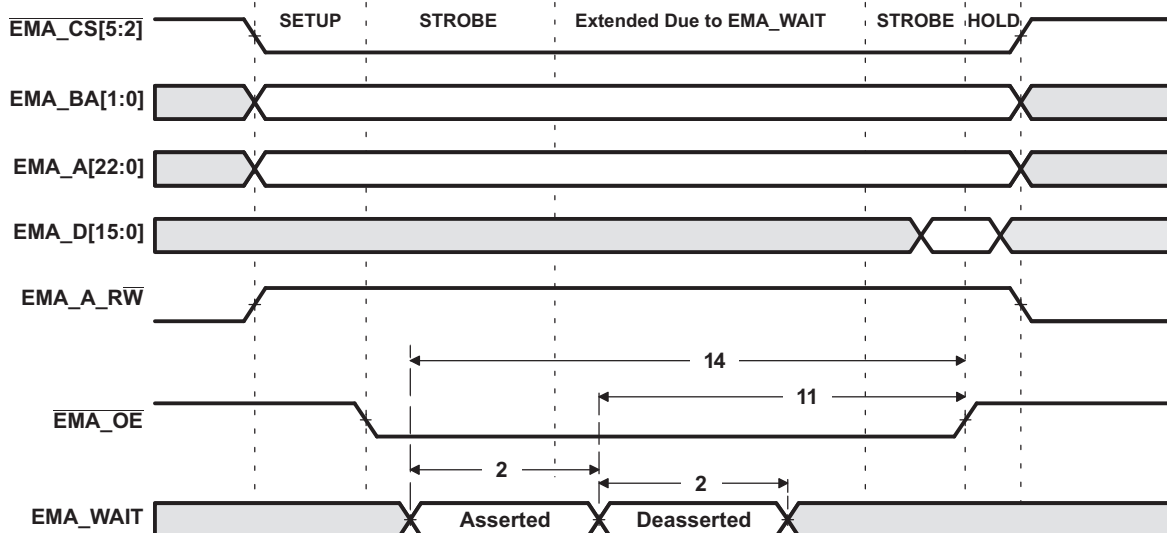
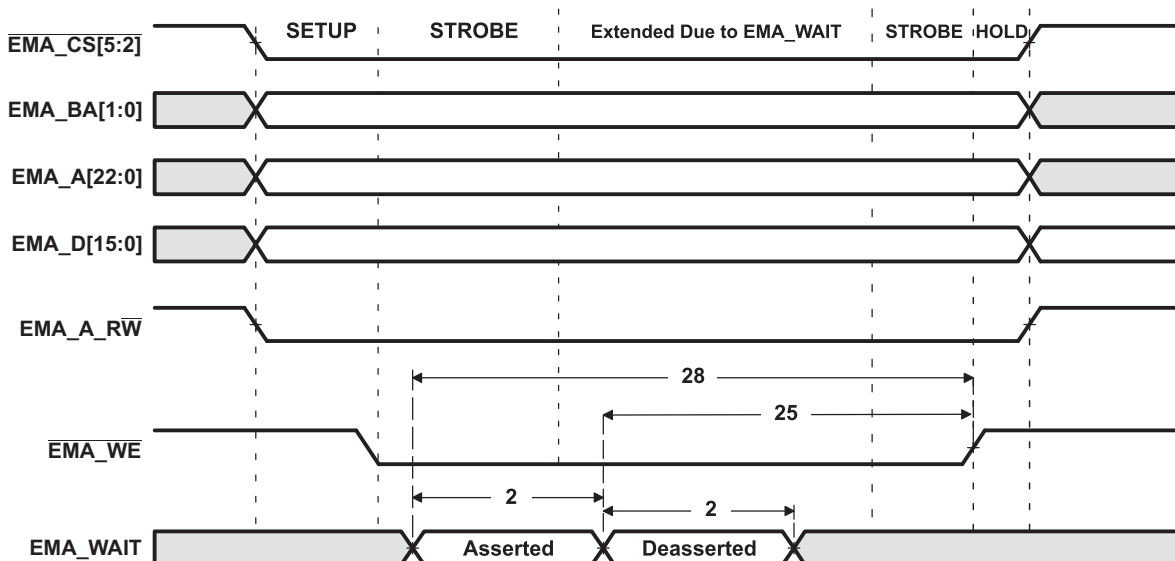

Figure 5-16. EMA\_WAIT Read Timing Requirements
Figure 5-17. EMA\_WAIT Write Timing Requirements
(1) E = EMA\_CLK period or in ns. EMA\_CLK is selected either as SYSCLK3 or the PLL0 output clock divided by 4.5. As an example, when SYSCLK3 is selected and set to 100MHz, E=10ns
(2) Setup before end of STROBE phase (if no extended wait states are inserted) by which EM\_WAIT must be asserted to add extended wait states. Figure 5-16 and Figure 5-17 describe EMIF transactions that include extended wait states inserted during the STROBE phase. However, cycles inserted as part of this extended wait period should not be counted; the 4E requirement is to the start of where the HOLD phase would begin if there were no extended wait cycles.
**Table 5-24. Switching Characteristics for EMIFA Asynchronous Memory Interface (1) (2) (3)**